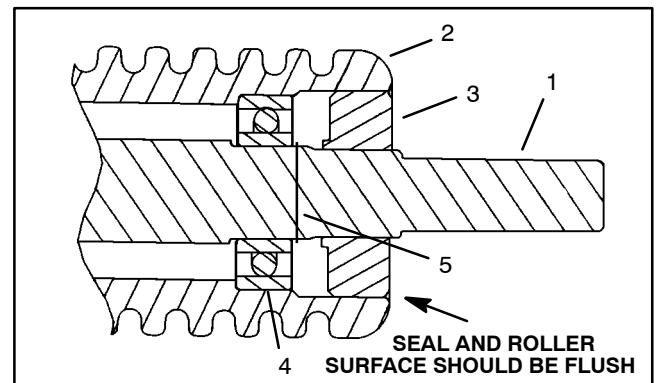

Figure 31
### Bearing Installation (Fig. 31)
2. Using a seal installation tool or tubing that contacts as much of the seal face as possible, press seal into roller. Seal face should be flush with roller surface when correctly installed (Fig. 31).